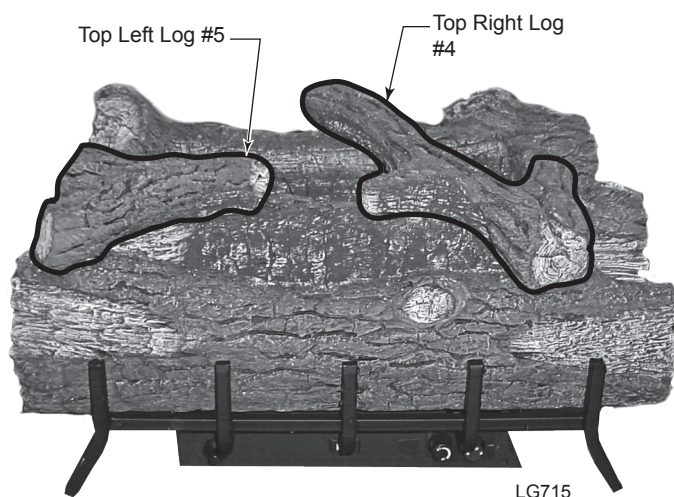

Figure 27 - Place Top Left and Right Logs
4. Place Top Right Log (#4) in bottom log cutouts. *Figure 27*